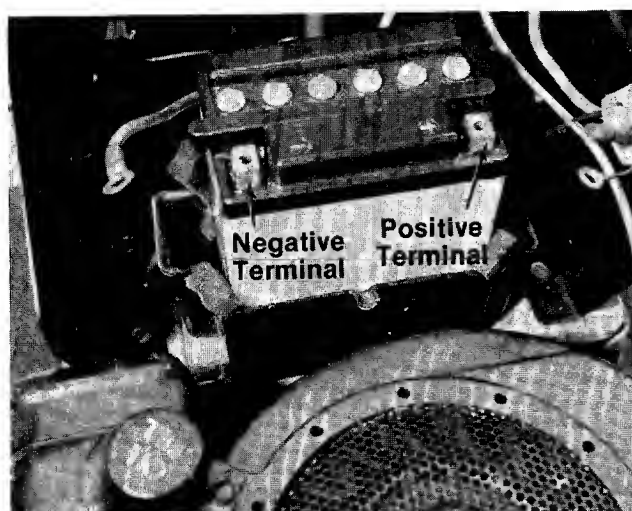

FIGURE 11.
- ← 11. Place the battery in the rider so that the positive terminal is facing the left side of the unit. See figure 11.